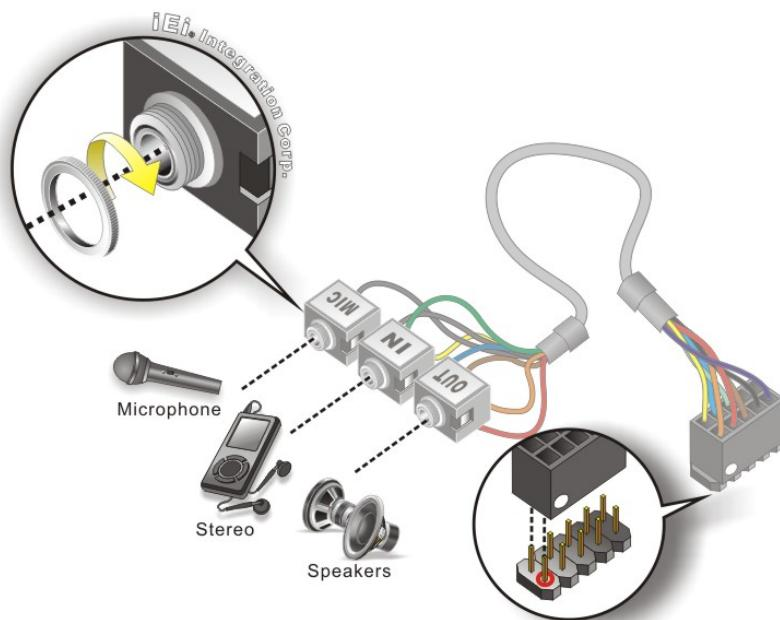

Figure 4-20: Audio Kit Cable Connection
Step 2: Align pin 1. Align pin 1 on the on-board connector with pin 1 on the audio kit connector. Pin 1 on the audio kit connector is indicated with a white dot. See Figure 4-20.